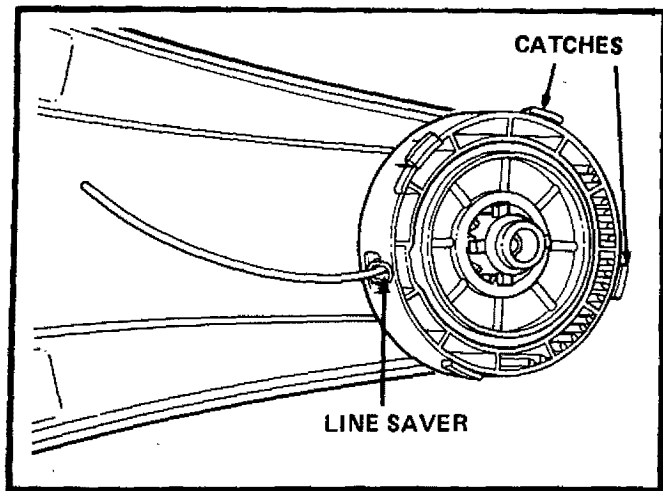

Figure 21
NOTE: The aluminum line saver is reversible. After a groove is worn into one side, reverse the line saver (with the spool removed) to provide a new wear surface. Figure 21.
- Insert the end of the line through the line saver as shown in Figure 21. Push spool in housing. Force spool down. Turn and lock spool under the drive lugs on the drive gear.